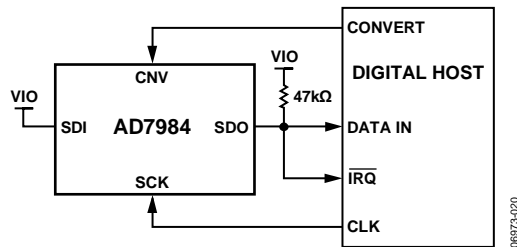
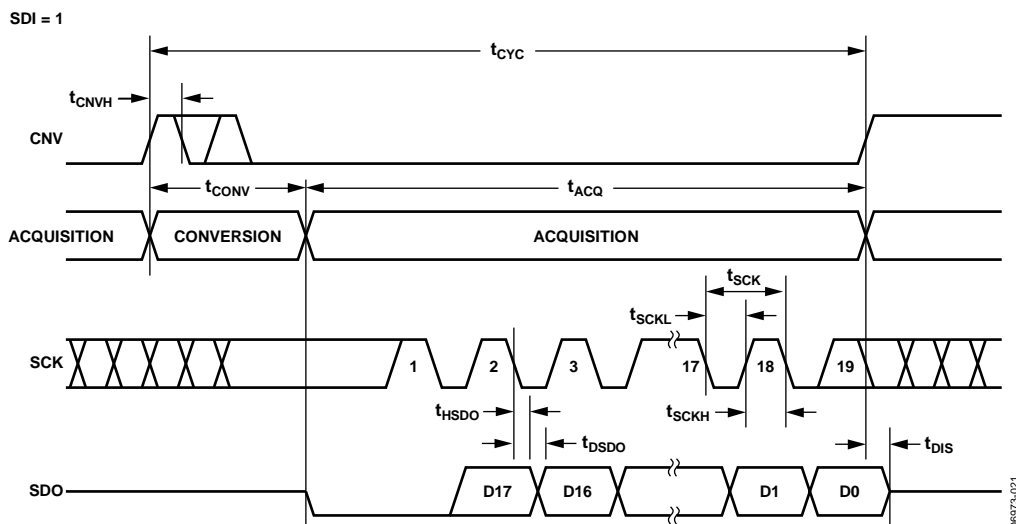
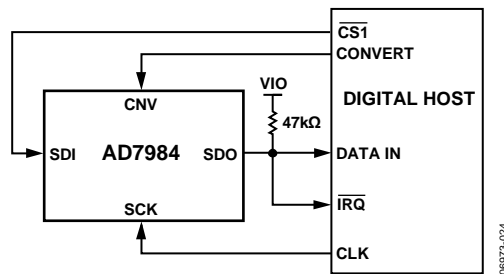
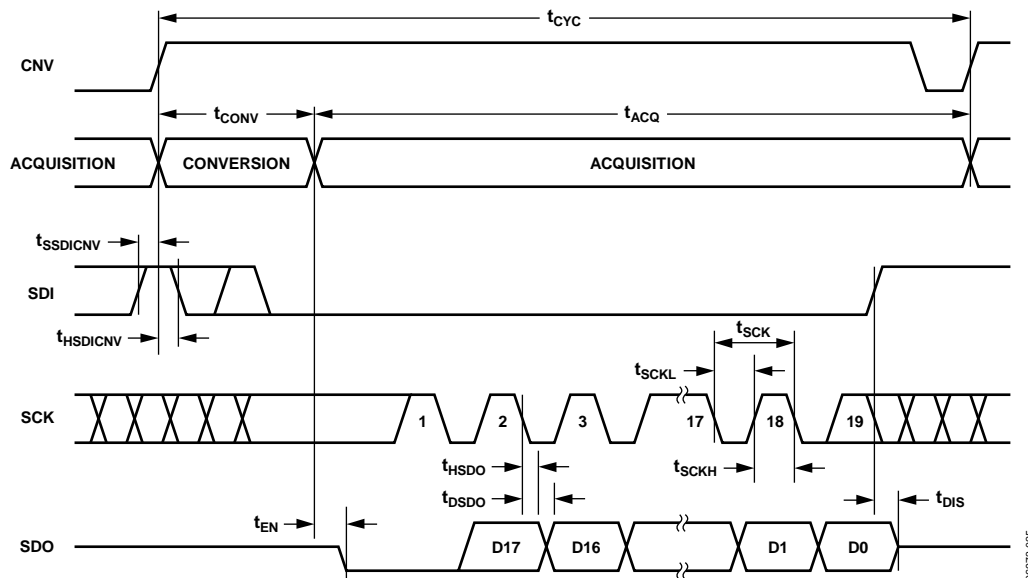

Figure 30.  $\overline{\text{CS}}$  Mode, 3-Wire with Busy Indicator Connection Diagram (SDI High)
Figure 31.  $\overline{\text{CS}}$  Mode, 3-Wire with Busy Indicator Serial Interface Timing (SDI High)
Figure 34.  $\overline{CS}$  Mode, 4-Wire with Busy Indicator Connection Diagram
Figure 35.  $\overline{CS}$  Mode, 4-Wire with Busy Indicator Serial Interface Timing
- In  $\overline{CS}$  mode if CNV or SDI is low when the ADC conversion ends (see Figure 31 and Figure 35).
The connection diagram is shown in Figure 30, and the corresponding timing is given in Figure 31.
The connection diagram is shown in Figure 34, and the corresponding timing is given in Figure 35.